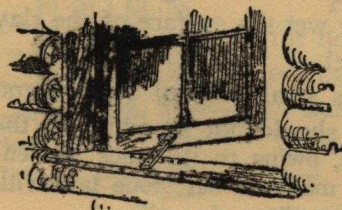

FIG. 27.
**WINDOW HINGES AND FASTENERS.**—Strong pieces of leather, such as old boot tops, will make good window hinges; but, of course, iron hinges are better. Swing windows hinged in this way should have a hardwood bar to hold them open at particular angles (Fig. 27). The bar should be about one inch square, hinged at one end of the sash; the other end should have holes bored through it to fit over iron pins placed on the sill of the window. A hook and staple or leather hasp is needed to hold the sash shut. The ordinary sliding sash needs only a button to keep it